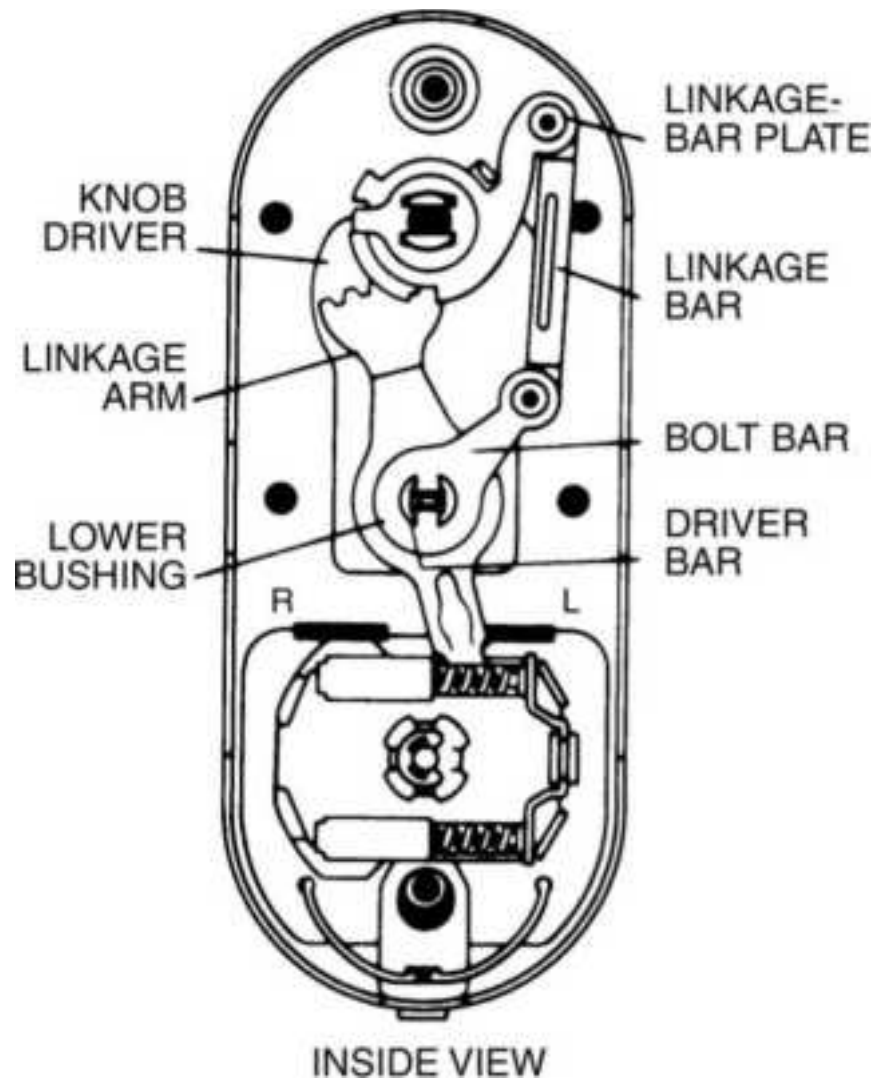

**Figure 13.95** Right-hand conversion, Step 3.
3. Remove the linkage-bar plate, linkage bar, bolt bar, driver bar, knob-driver linkage arm, and lower bushing (Fig. 13.95 ).